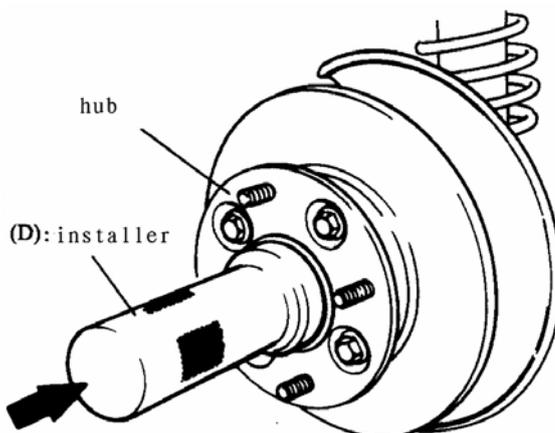

FIG.16-33
(1) While turning hub, drive it in with plastic hammer until its even installation is confirmed. Push the hub in with special tool. (FIG.16-33)